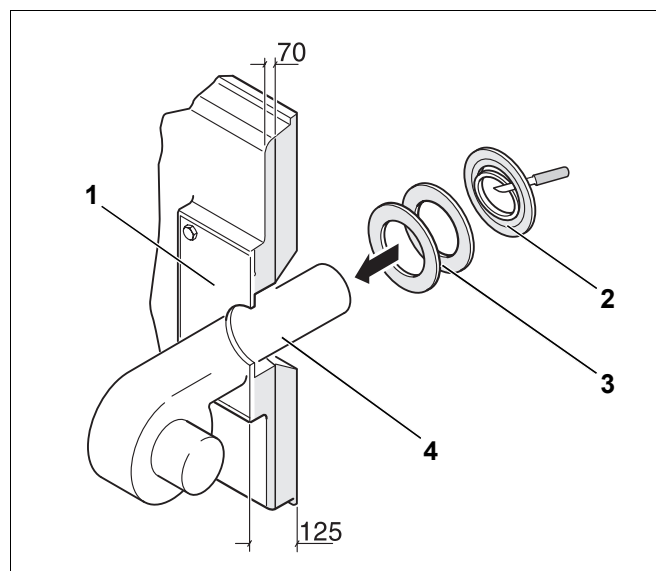

Fig. 28 Burner installation (dimensions in mm)
- Cut using oxy-acetylene or drill the burner plate (Fig. 28, **Item 1**) on site according to the required burner pipe diameter (max. diameter 270 mm). Drill the burner mounting holes according to the hole pattern of the burner connection flange.
- Cut out insulating rings according to the burner pipe diameter (Fig. 28, **Item 2**).
- Fill the remaining gap between the thermal insulation on the burner door and the burner blast tube (Fig. 28, **Item 4**) with suitably adapted insulating rings (Fig. 28, **Item 3**).